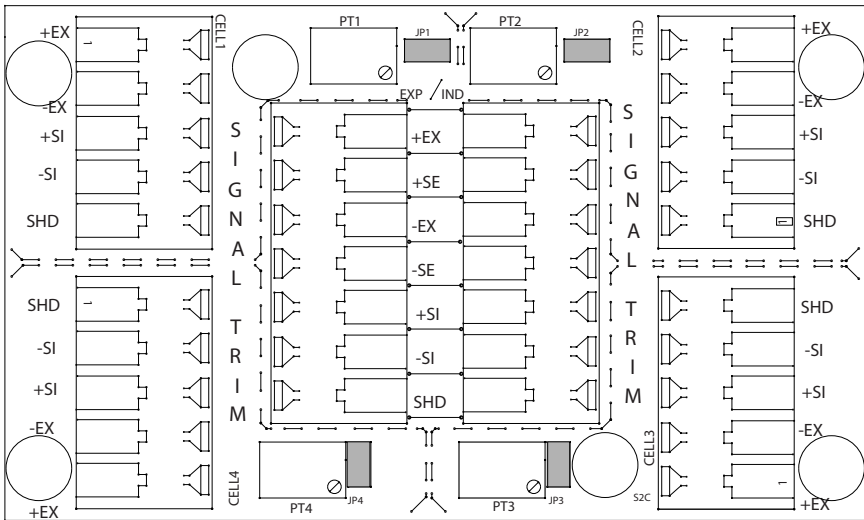

Figure 3-5. Trim Potentiometers
Before the scale can be calibrated, all load cells must be balanced and responding to loading equally by adjusting the balance trimmers. The balance trimmers are located on the junction box (see Figure 3-5). Use the following procedure to balance the load cells.
7. With no weight on the scale, zero the indicator. Then turn all four potentiometers (shown in Figure 3-5) to increase the reading until a clicking sound is heard from each potentiometer. This ensures the maximum signal from each load cell.